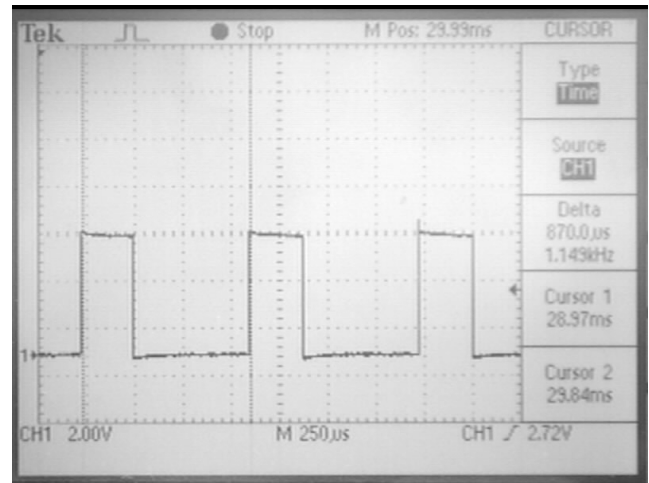

Figure 2
5. Loop oscillator control signal. The signal at U4, pin 4 (channel 1) and 5 (channel 2) should be as in figure 2.